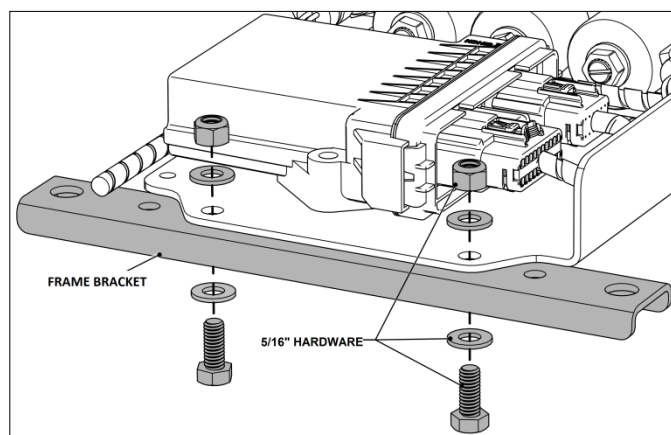

Figure 1B
- Fasten the control board to the two frame brackets using the supplied 5/16" cap screws, nuts and washers. Torque the hardware to 17 ft-lbs [23 N.m]. Refer to Figure 1B.
*Mount the control board as high as possible on the frame rail and in the orientation shown in Figure 1B.*